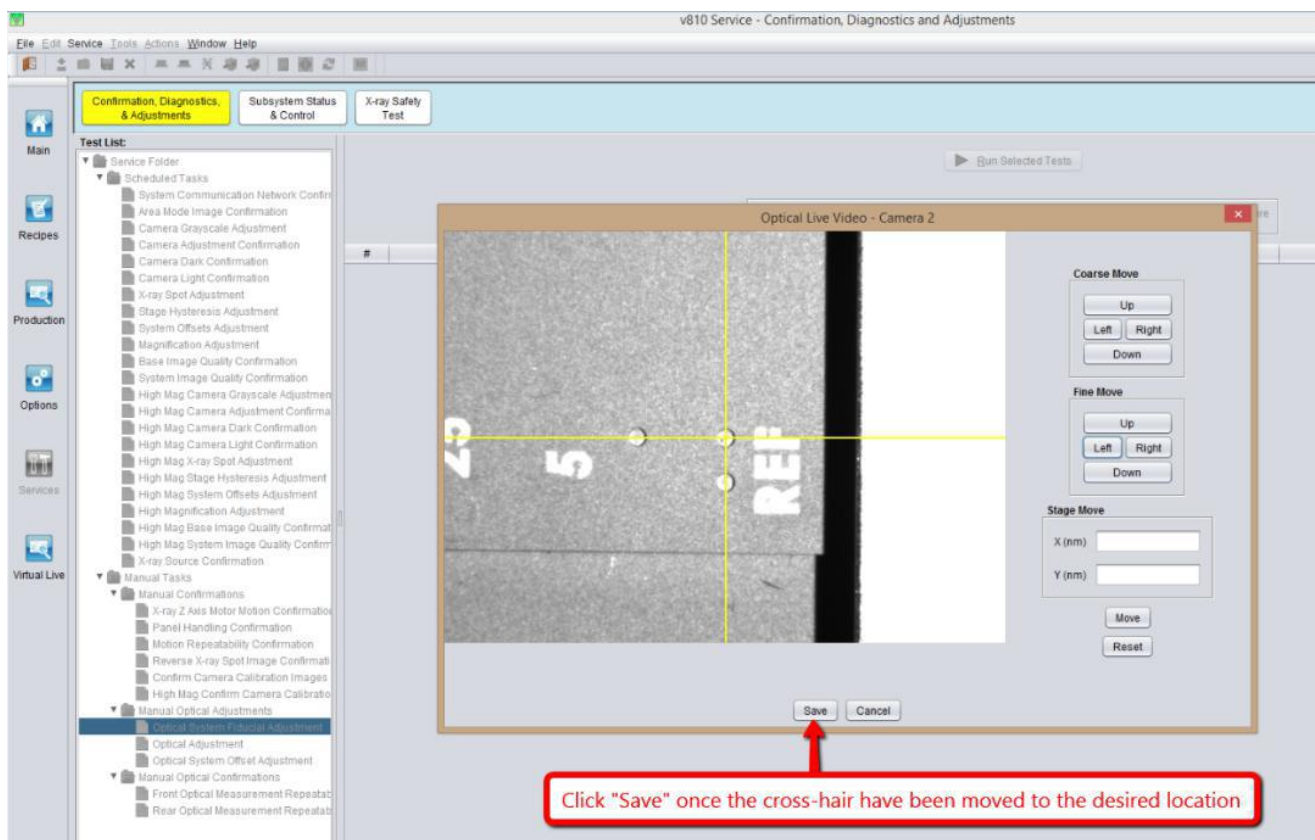

Figure 10 Rear PSP Fiducial Point selection
12. Move the cross-hair to particular location as Figure 10.
Remarks: Cross hair require to be within in middle of the circle as Figure 10.